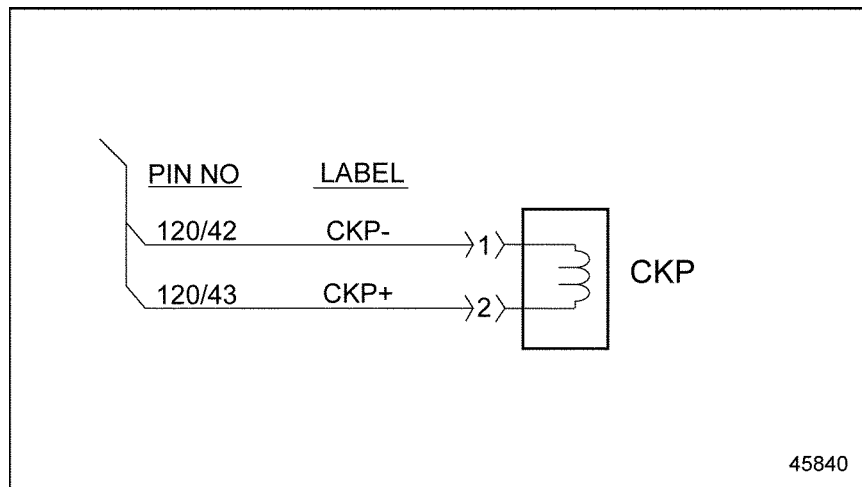

Figure 56-3 Crankshaft Position Sensor
5. Disconnect the CKP Sensor. See Figure 56-3.